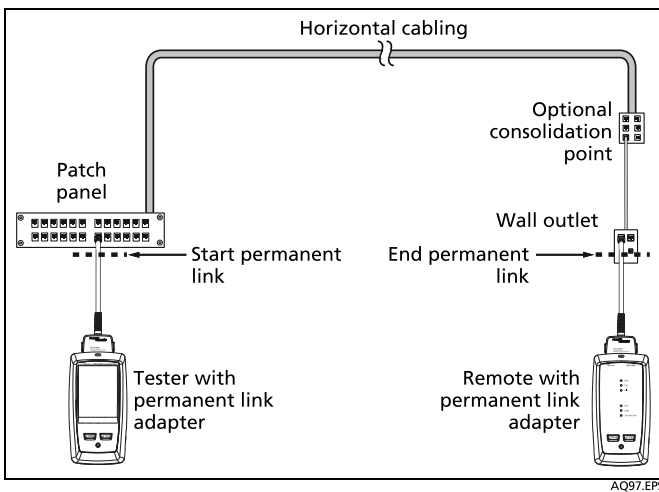

Figure 3. Permanent Link Connections
- 4-1 Connect the testers to the link as shown in Figure 3 or 4.